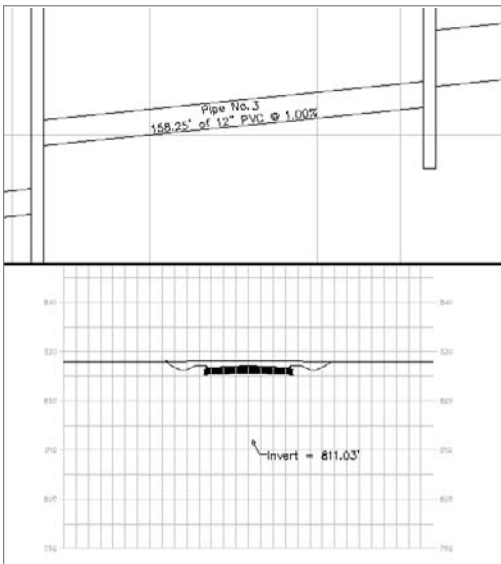

Figure 11.19
- Click inside the top viewport to activate it. Zoom in on Pipe No. 3. This is the pipe shown in the section view. Your screen should look similar to Figure 11.19.